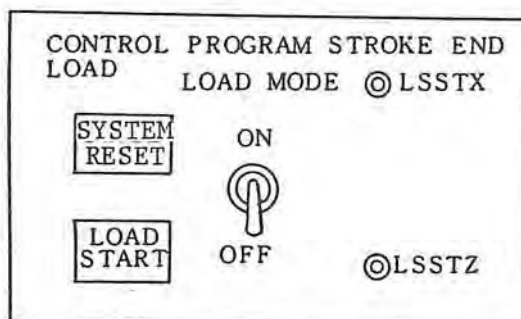

Fig. 5-13 Check Panel
- 3) Turn the PROGRAM LOAD MODE switch on the check panel (Fig. 5-13) in the ON position.